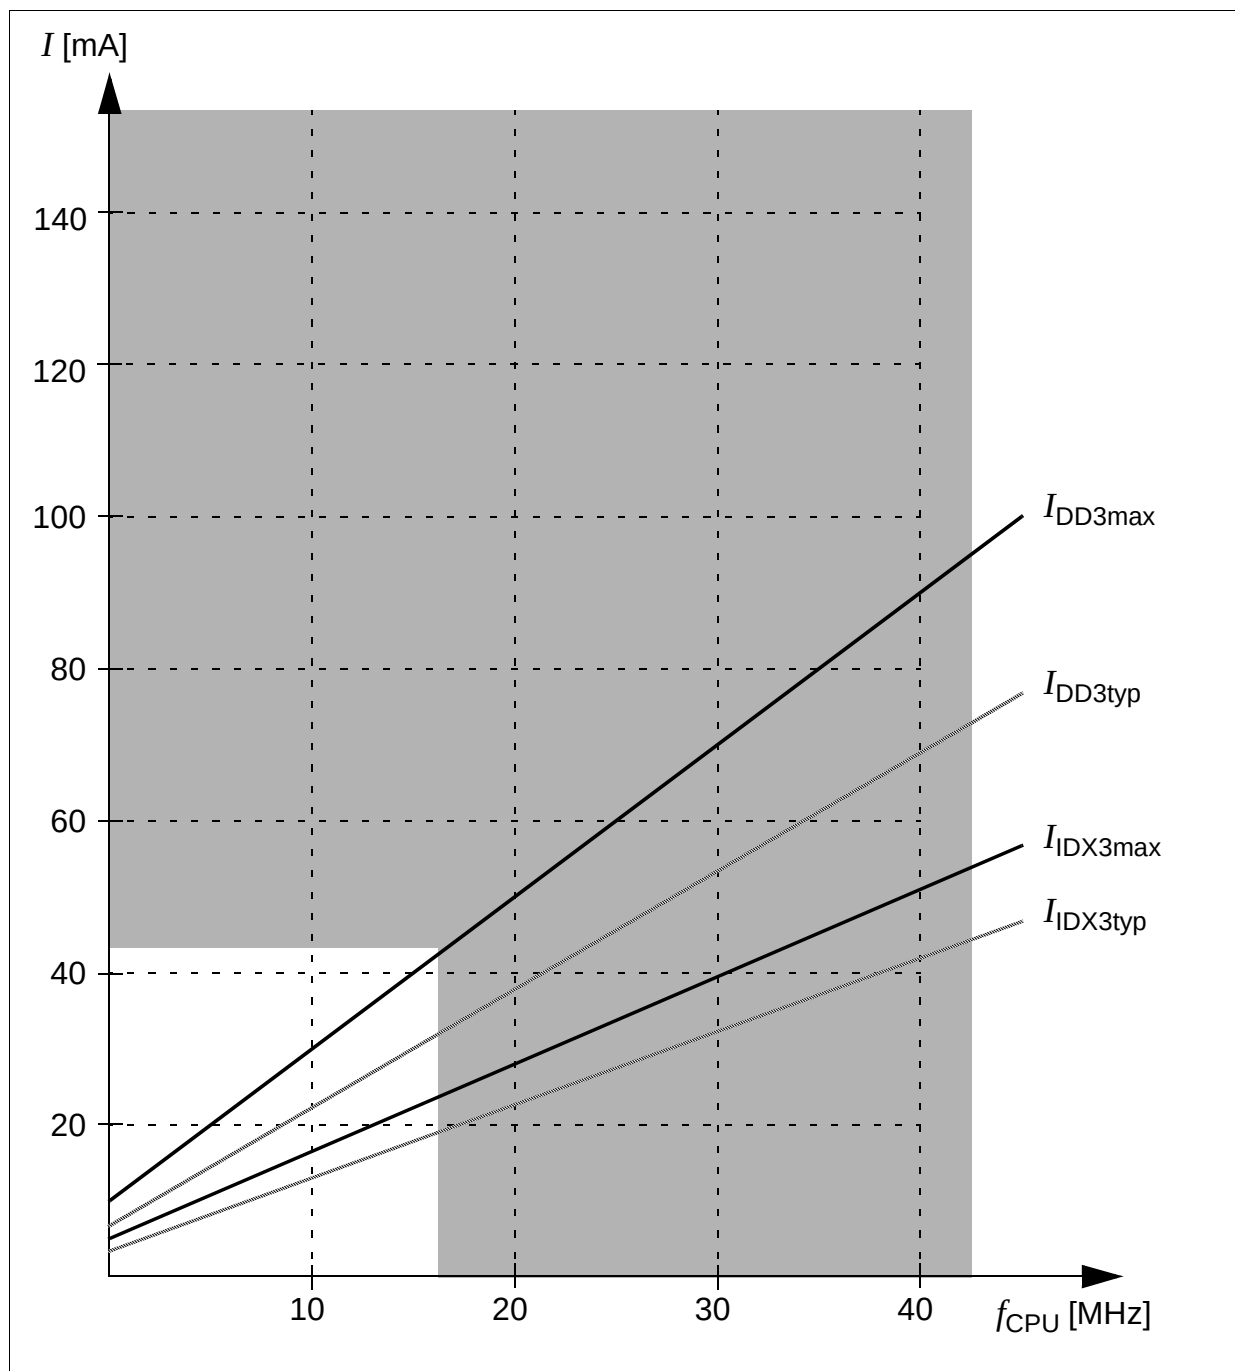

Figure 10 **Supply/Idle Current as a Function of Operating Frequency**
1) The supply current is a function of the operating frequency. This dependency is illustrated in Figure 10. These parameters are tested at V_{DDmax} and maximum CPU clock with all outputs disconnected and all inputs at V_{IL} or V_{IH} .